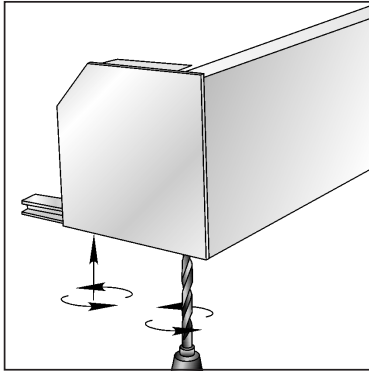

Fig. 21
- f) Mark and drill two X4,2+0,3 holes for rivets in the shutter box and in end caps at the side of the rear wall (Fig. 21);